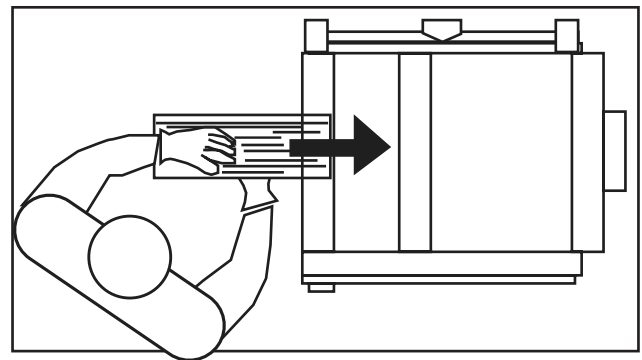

Figure 31: Correct Planing Direction.
- When planing, feed the workpiece left-to-right under the cutterhead FIG. 31.